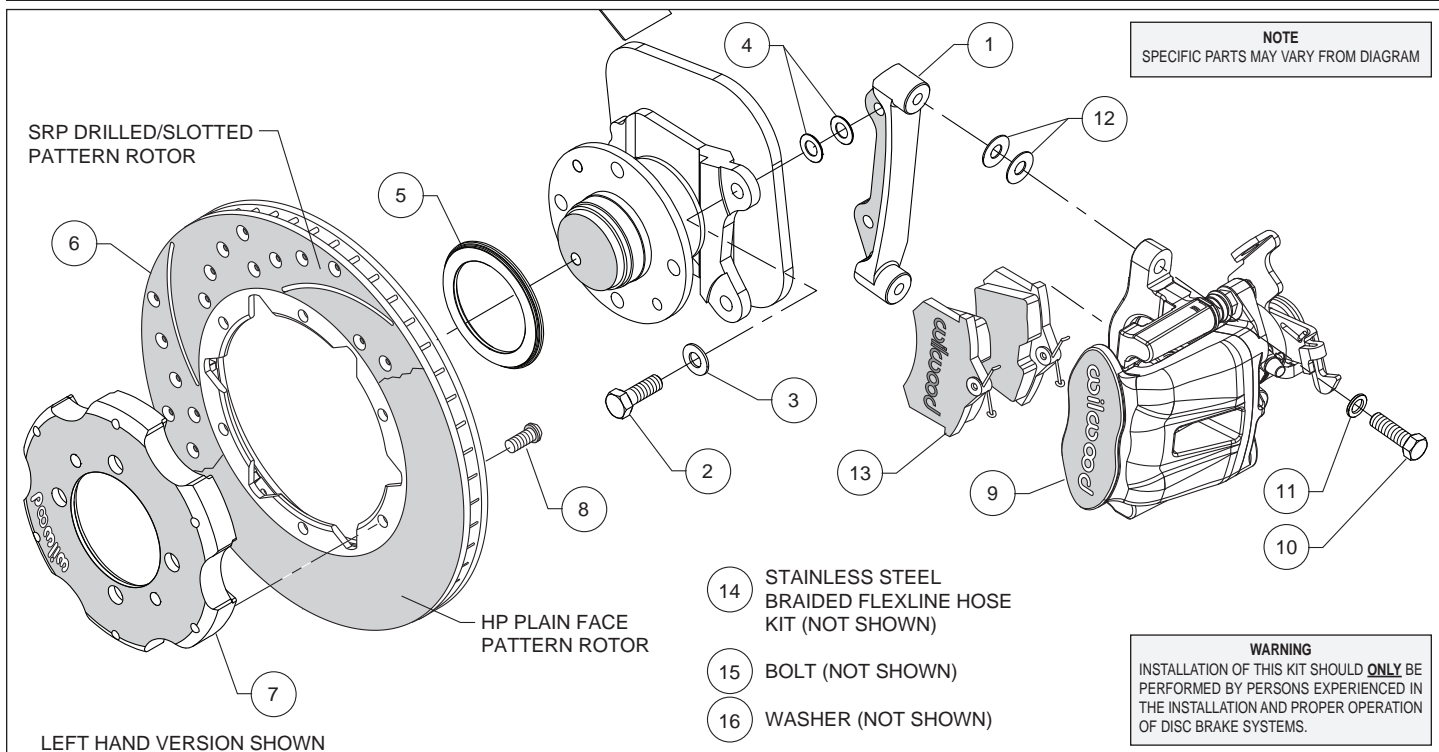

Figure 2. Typical Installation Configuration
- The caliper mount bracket (1) should initially be installed with clean, dry threads on the mounting bolts. Orient the bracket as shown in Figure 2, and Photo 2. Install using mounting bolts (2) and washers (3). Initially place two .030" thick shims (4) on each bolt between the bracket and upright, Figure 2. Temporarily tighten the mounting bolts. **NOTE:** The bracket must fit squarely against the mount bosses on the upright. Inspect for interference from casting irregularities, machining ridges, burrs, etc. Later, after the caliper alignment has been checked, the mount bolts will be secured using red *Loctite*[®] 271.
- Orient the rotor (6) and the hat (7) as shown in Figure 2 and Photo 3. Attach rotor to hat using bolts (8). Using an alternating sequence, apply red *Loctite*[®] 271 to the threads, and torque to 25 ft-lb.
- Install the brake pads (13) into the caliper (9) from the bottom with the friction material facing the rotor until the "v" spring clip snaps into place against the anvil, as shown in Figure 2 and Photo 6. They should install easily without interference.
- Mount the caliper (9) onto the mounting bracket (1) using bolts (10) and washers (11), as shown in Figure 2 and Photo 7. Initially place two .035" thick shims (12) on each bolt between the caliper and the bracket. Temporarily tighten the mounting bolts and view the rotor (6) from the end of the caliper. The rotor should be centered in the caliper, Photo 8. If not, adjust by adding or subtracting .030" shims (4) between the caliper mounting bracket and the upright to center the caliper on the rotor. Always use the same amount of shims on each of the two mounting bolts. Once the caliper alignment and pad centering are correct, remove the bracket mounting bolts (2) one at a time, apply red *Loctite*[®] 271 to bolt threads, and torque to 30 ft-lb.